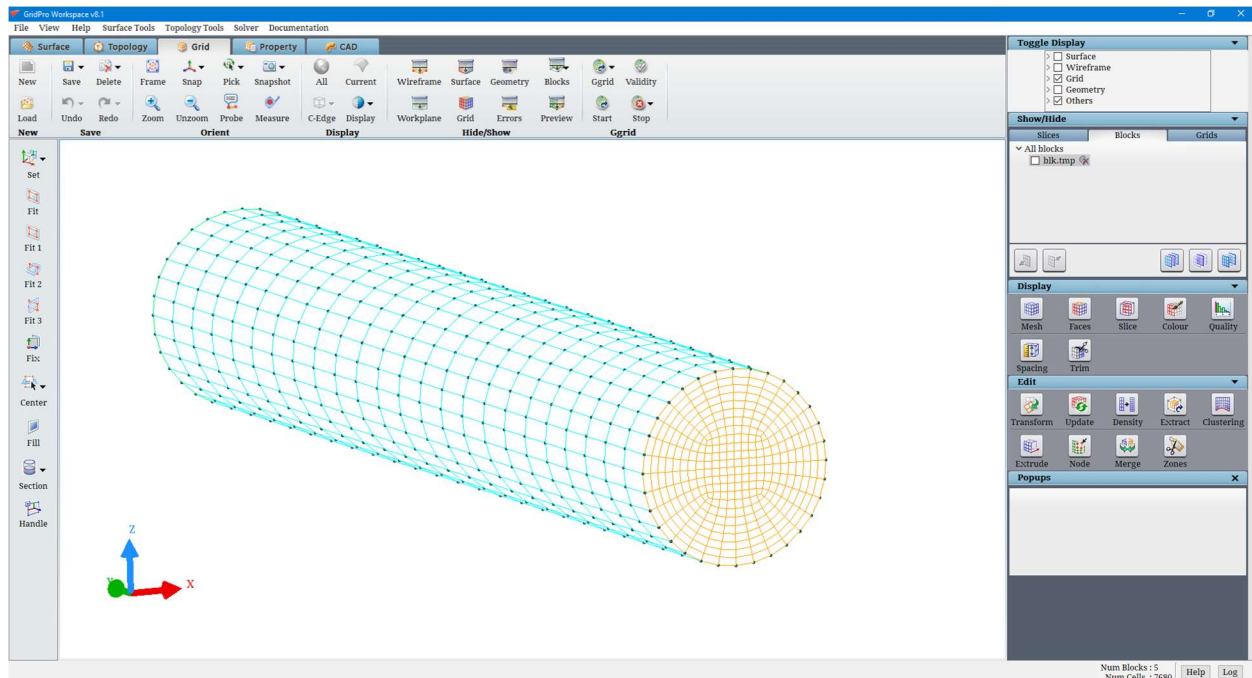

Figure 5.58: Node dialog box
**Node** button helps improve the quality of the grid by moving the grid nodes. Many times you may end up having various singularities while building topology. Only the topology which is free of singularities will output a grid without any folds. Resolving the singularities is a time-consuming process; hence we came up with a tool that can move the nodes at the grid level. Once you generate a grid with folds, create a cross-sectional sheet across it and move the nodes manually to the desired position such that it is not folded anymore. Clicking on the Node button will pop up a dialog box and highlight the grid nodes of the current grid sheet, which aids the cursor to move the desired nodes, as shown in Figure 5.58.